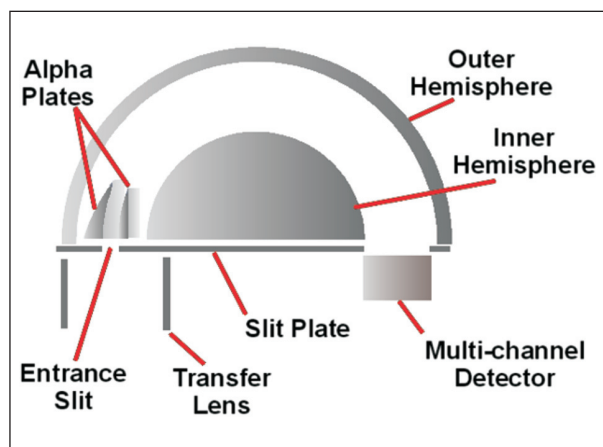

Figure 3: Analyzer cross section showing the position of the alpha-plates
- The alpha-plates, shown in Figure 3, ensure very high energy resolution.